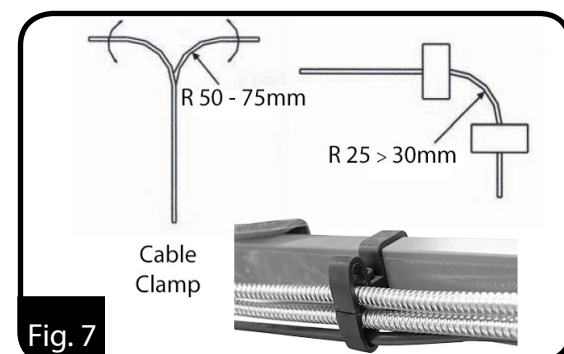

Fig. 7
- All cables must be fixed, but allow for the maximum machine travel movements. Diagram (Fig. 7) recommends the minimum radius that should be used for bending the scale cable. Use the cable clamps supplied to secure the cables to the display arm.